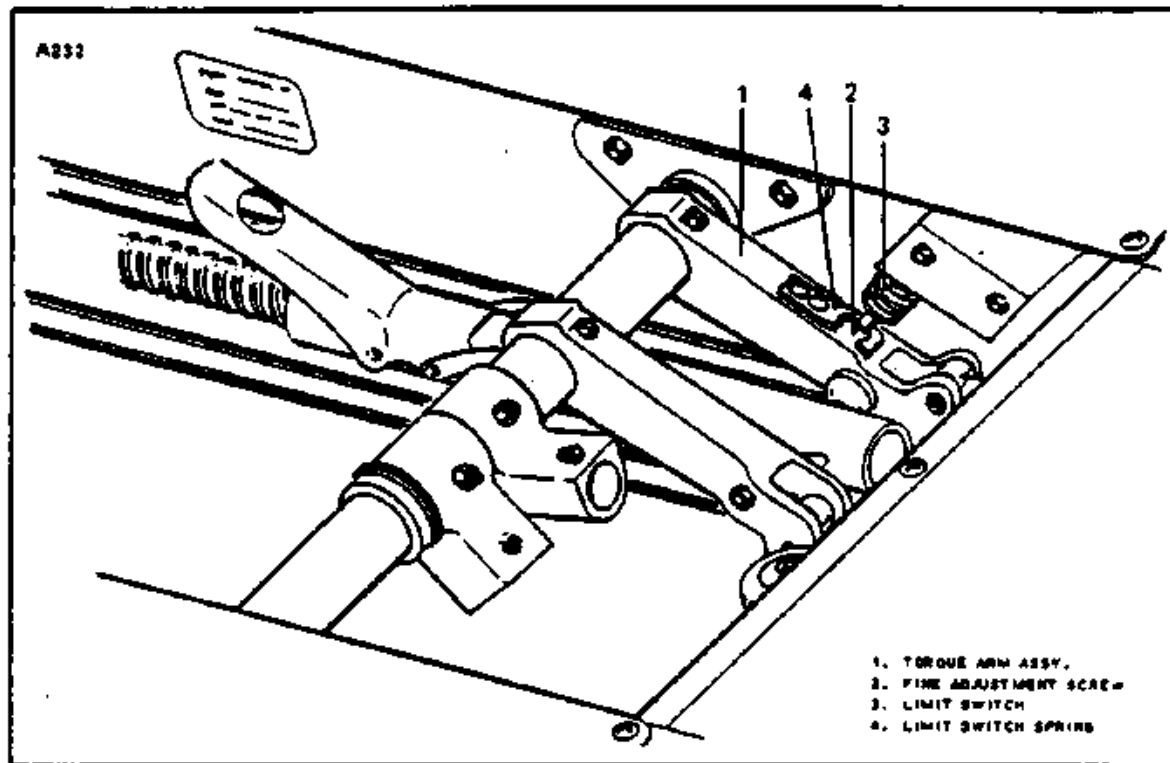

Figure 7-15. Landing Gear Up Limit Switch
**7-48. ADJUSTMENT OF GEAR UP SWITCH.** (Refer to Figure 7-15.) Adjust the gear up switch using the following procedure:
b. If the gear does not retract far enough, move the switch (3) up in its bracket and run the check again. On the late model airplanes a set screw (2) is located